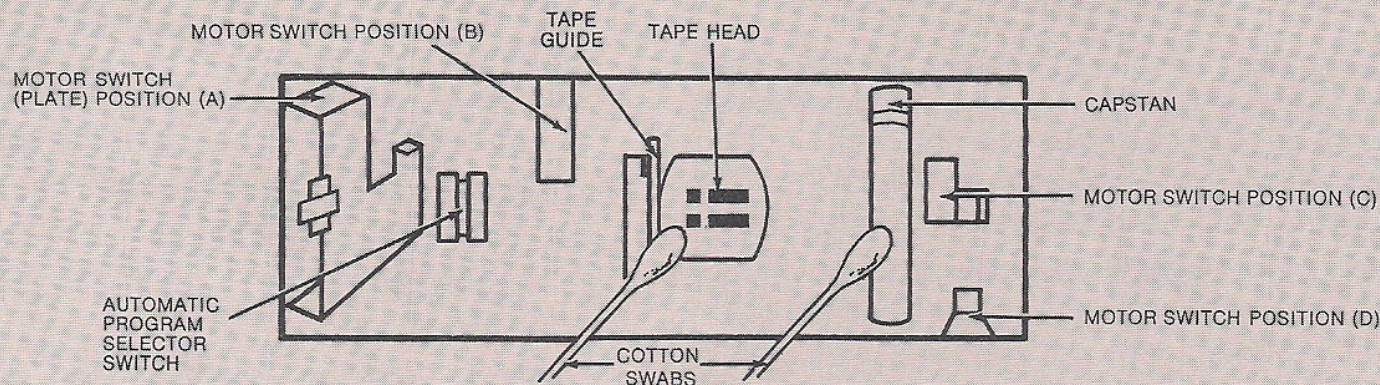

Figure 15
### TAPE UNIT CLEANING (Refer to Figure 15)
2. While holding the Tape Door open, look at the inside of your tape unit. Locate the motor Switch (See Fig. 15). This switch may be in any of the four positions shown in Fig. 15, labeled A,B,C or D.